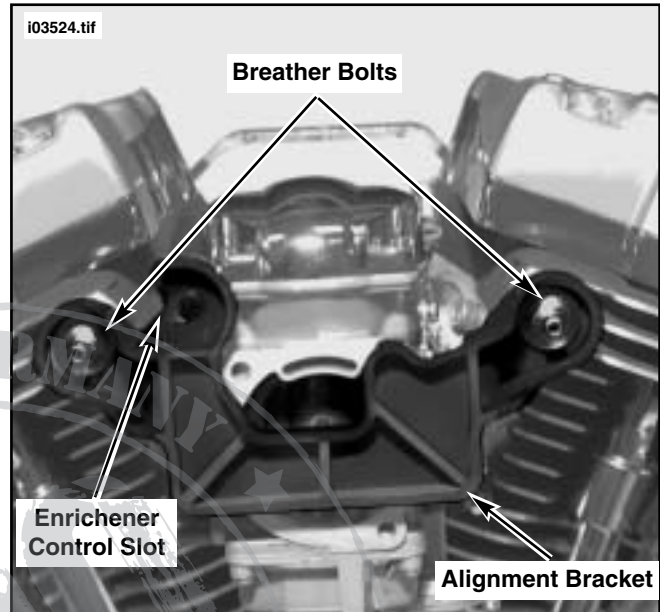

Figure 1. Induction Alignment Bracket (Twin Cam Carburetor Installation Shown)
- See Figure 1. Obtain alignment bracket. Align locating pins on bracket with backplate mounting holes in face of carburetor or induction module.